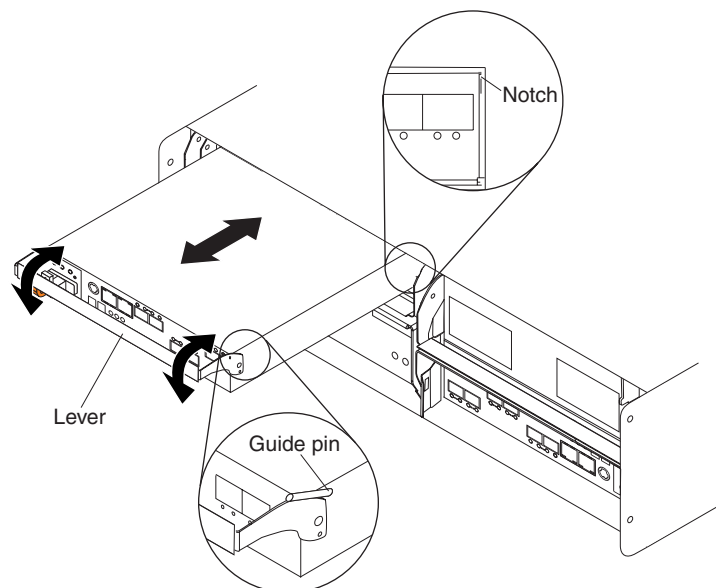

Figure 78. Installing a controller
- a. Slide one controller into the empty slot in the storage subsystem. Be sure that the lever is pulled straight out as you slide the controller in, as shown in Figure 78.